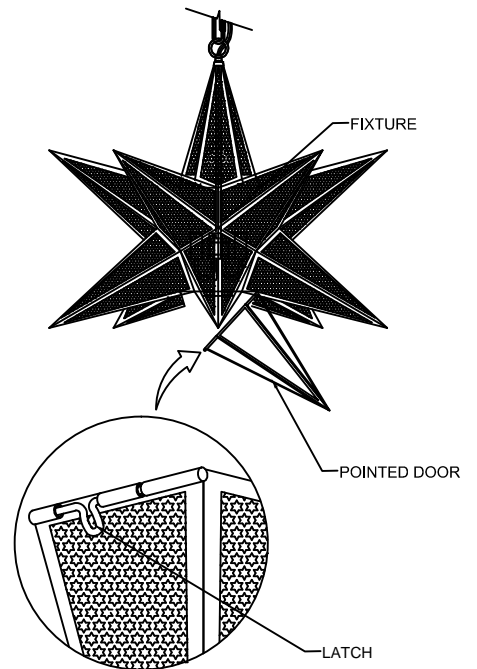

FIGURE-03
- Open the pointed door on the lowest part of the fixture. Unfasten the latch. (See Figure -03)